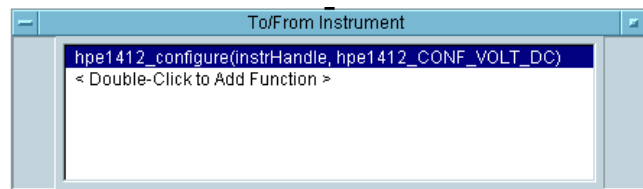

Figure 3-32. DC Voltage Function in *VXIplug&play* Object
8. Click OK. The To/From Instrument object now contains an entry for `hpe1412_configure(instrHandle, hpe1412_CONF_VOLT_DC)`, as shown in Figure 3-32.